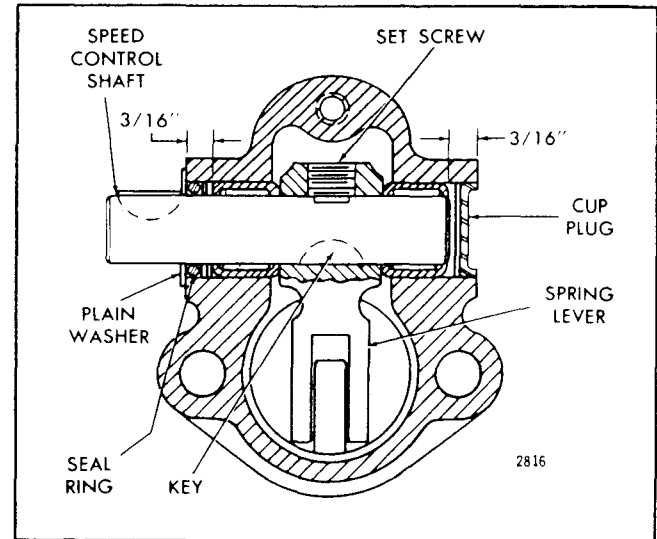

Fig. 4 - Cross Section of Governor Spring Housing and Lever Assembly
- c. On the former spring housing, remove the pipe plug in the top of the spring housing. On the current spring housing, remove one screw and lock washer and remove the spring housing cover and gasket. Then remove the set screw from the spring lever (Fig. 4).